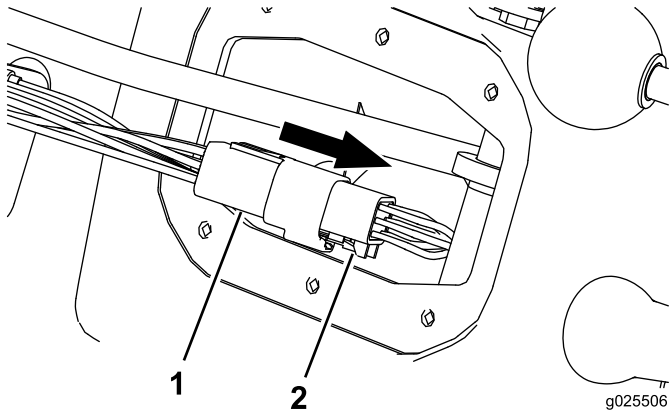

Figure 12
1. Unplug the shift-indicator connector from the vehicle harness (Figure 12).